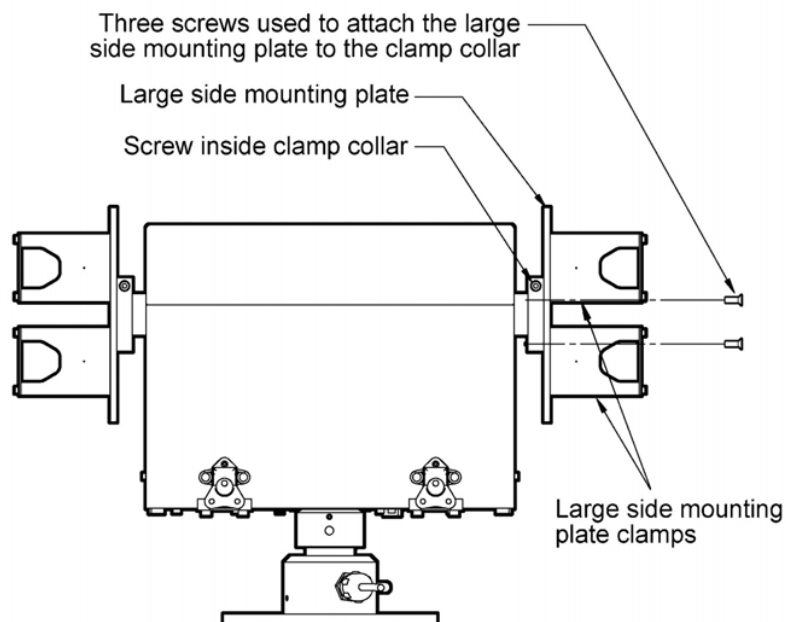

Figure 4.18: Pre-assembling Large Side Mounting Plates.
- Pre-assemble the Large Side Mounting Plate as shown in figure 4.18 and attach the Side Plate Assembly to the Zenith shaft. Ensure that the plates are pushed up against the end of the Zenith shaft.